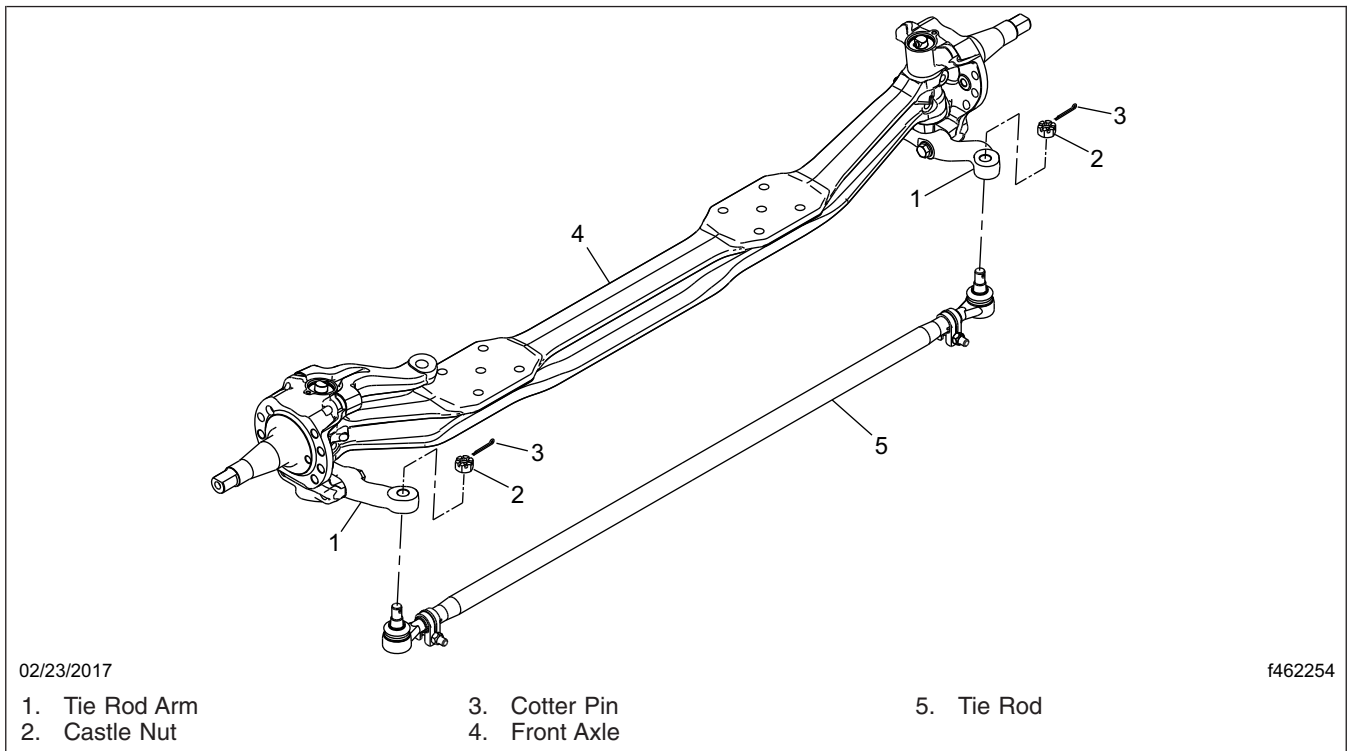

Fig. 1, Tie Rod Assembly
7. Disconnect the tie rod from the tie rod arms; see Fig. 1. Remove the tie rod from the vehicle and discard it.